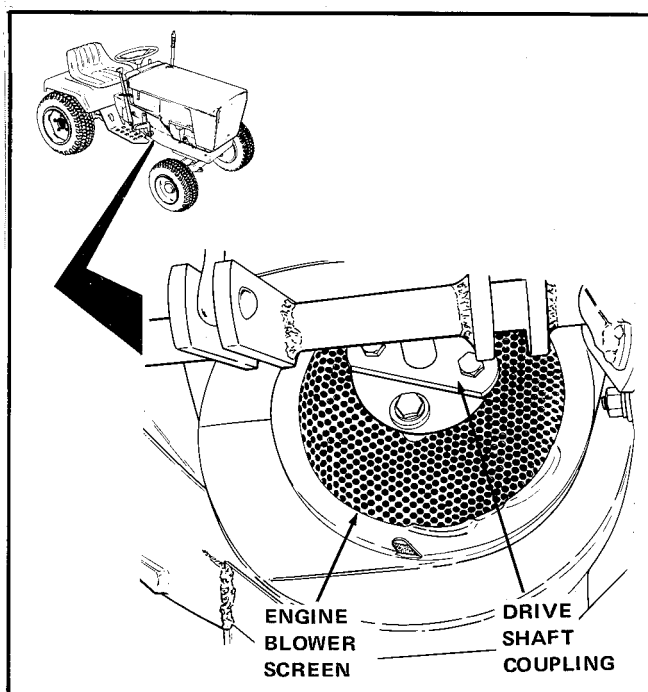

Figure 22. Drive Shaft Coupling Location
12. Slip lockwasher (item K) and thrust washer (item J) onto capscrew (item L), and start capscrew in threaded hole in end of crankshaft. Tighten capscrew until lockwasher is flat. To prevent engine from turning, insert a rod through the drive shaft coupling (figure 22). Be sure to remove rod after capscrew is tight.